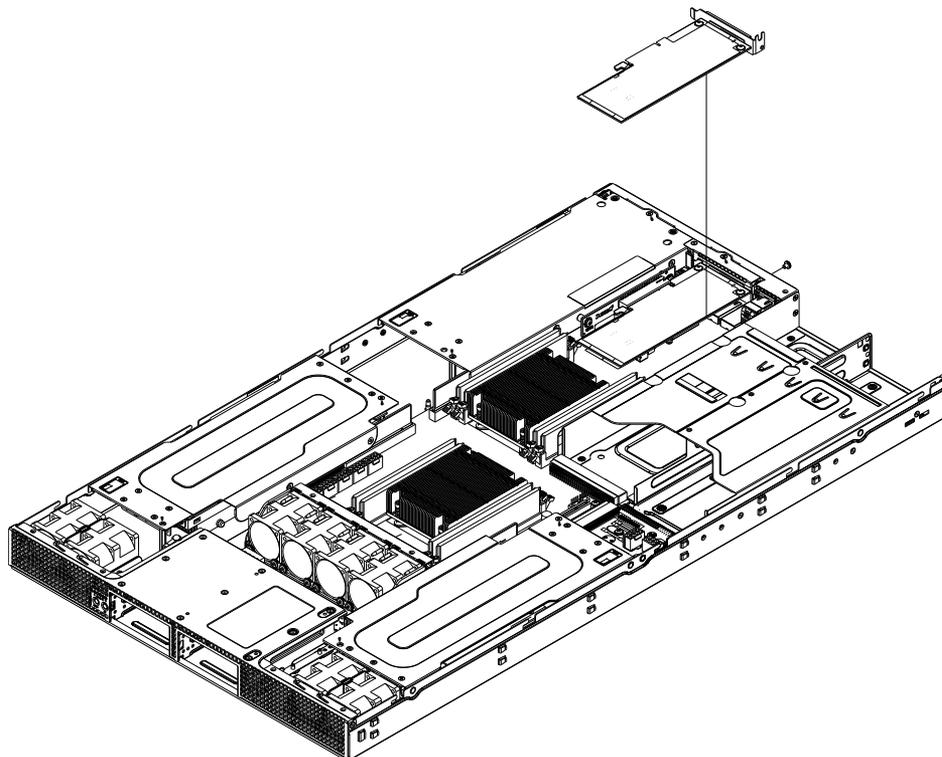

Figure 6-10 Low-profile PCIe Card Remove/Replace Example
6. Secure the rear bracket in the slot with the screw removed in step 3 and connect cables to the add-on card as necessary. See Figure 6-10 on page 56 for an example.